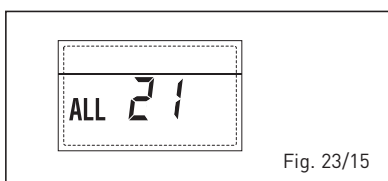

Fig. 23/15
- **SAFETY THERMOSTAT INTERVENTION SECOND MIXED ZONE “ALL 22” (fig. 23/16)**